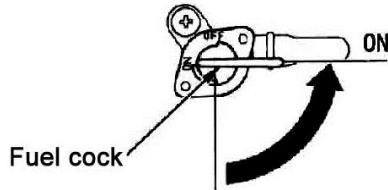

Fig. 9
1. Push the fuel cock to “ ON ”. (Fig.9) (Option)